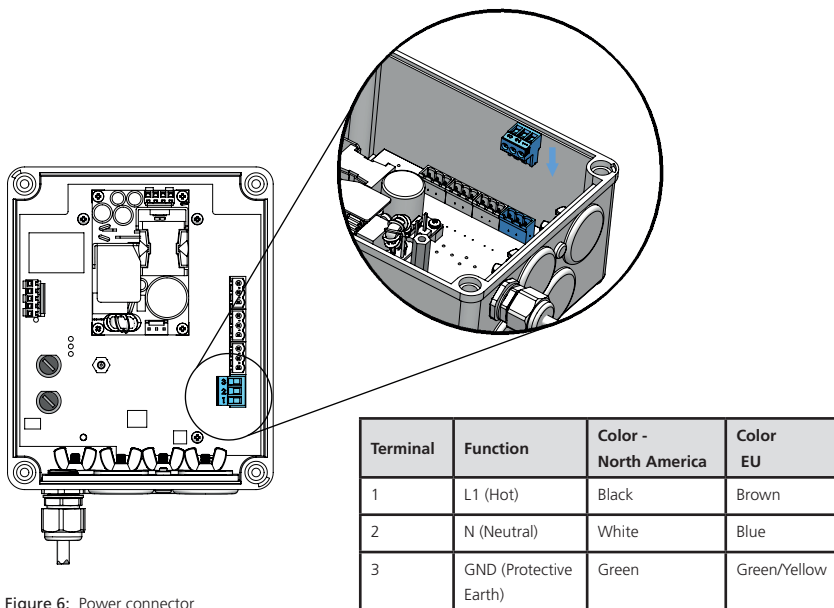

Figure 6: Power connector
4. Connect AC power to the connector labeled J1 (see Figure 6 for power connector location). AC power and protective earth wires must be 12 to 18 AWG. A local disconnect switch or circuit breaker which meets local electrical code is also required on the AC power input, and must be located near the PCM.
5. Connect Relay outputs to connectors labeled J2, J3, and J4. Note that Normally Open (NO) and Normally Closed (NC) contacts are provided. See Figure 6 for wiring information.